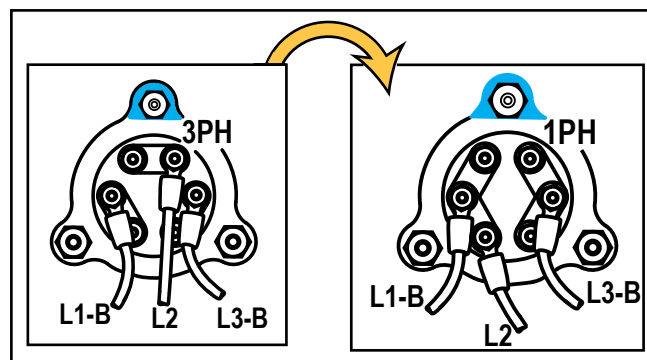

Fig. 22 - Rewire the booster tank heater.
Refer to Figure 22 below. **STOP** If blue paint is not visible at the 12 o'clock position on the tank heater then immediately contact National Service: In USA - (1) 800 858-4477 / In Canada - (1) 800 263-5798
- Step 2:** The booster heater is color coded at the top of the heater to ensure it is properly oriented. Immediately contact the factory if the color code is not on the top of the heater, (Fig. 22).
- Step 3:** Reposition the jumper straps and connect the wires as shown in (Fig. 22).